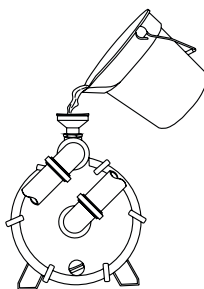

Fig. 12
7. Remove the cover and fill the pump with water (Fig. 12). Thread the cover back onto the funnel; tighten.